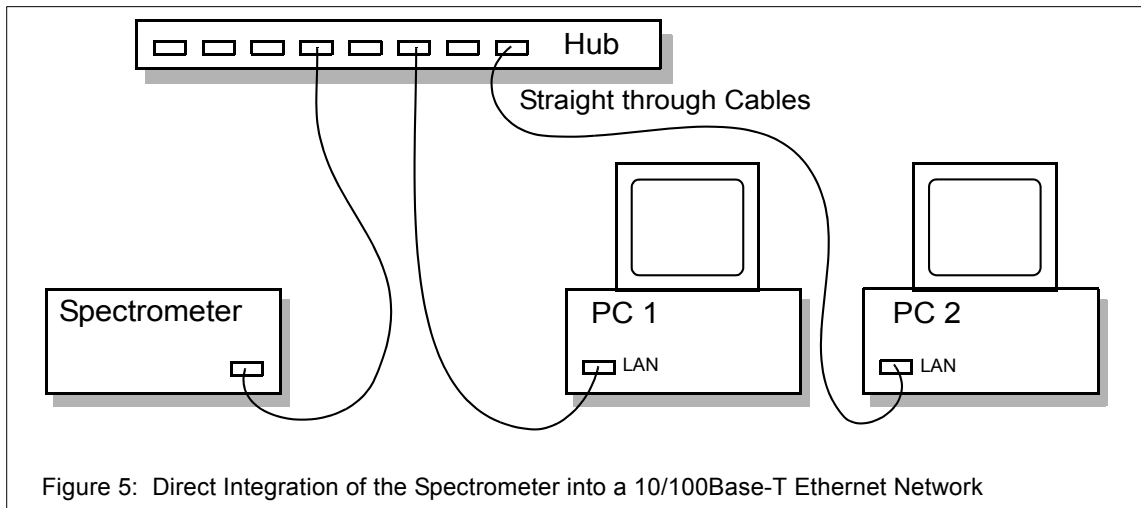

Figure 5: Direct Integration of the Spectrometer into a 10/100Base-T Ethernet Network
- Connecting both the spectrometer and PC to a network. See fig. 5.
- 3 **PC:** Connect the other straight through data cable to the LAN connector (fig. 5) at the PC rear side and to the network hub.
Only in case of connection variant B (i.e. connecting the spectrometer directly to a network, see fig. 5), different spectrometer network addresses are required. They need to be defined by your network administrator and assigned to the spectrometer using the FCONF program (Eirmware Configuration). This program is part of the OPUS software.
In case of connection variant B (fig.5) and variant C (fig. 6), your network administrator needs to define the network addresses for the PC. These addresses need to be assigned to the network interface card LAN of the PC.